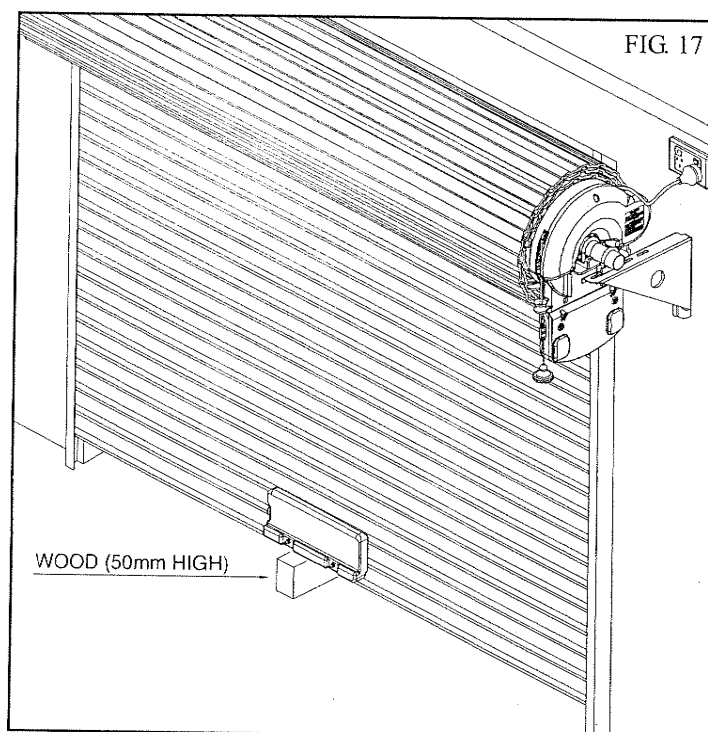

FIG. 17
2. Place a length of timber approximately 50mm high on the floor directly under the door (Fig. 17).